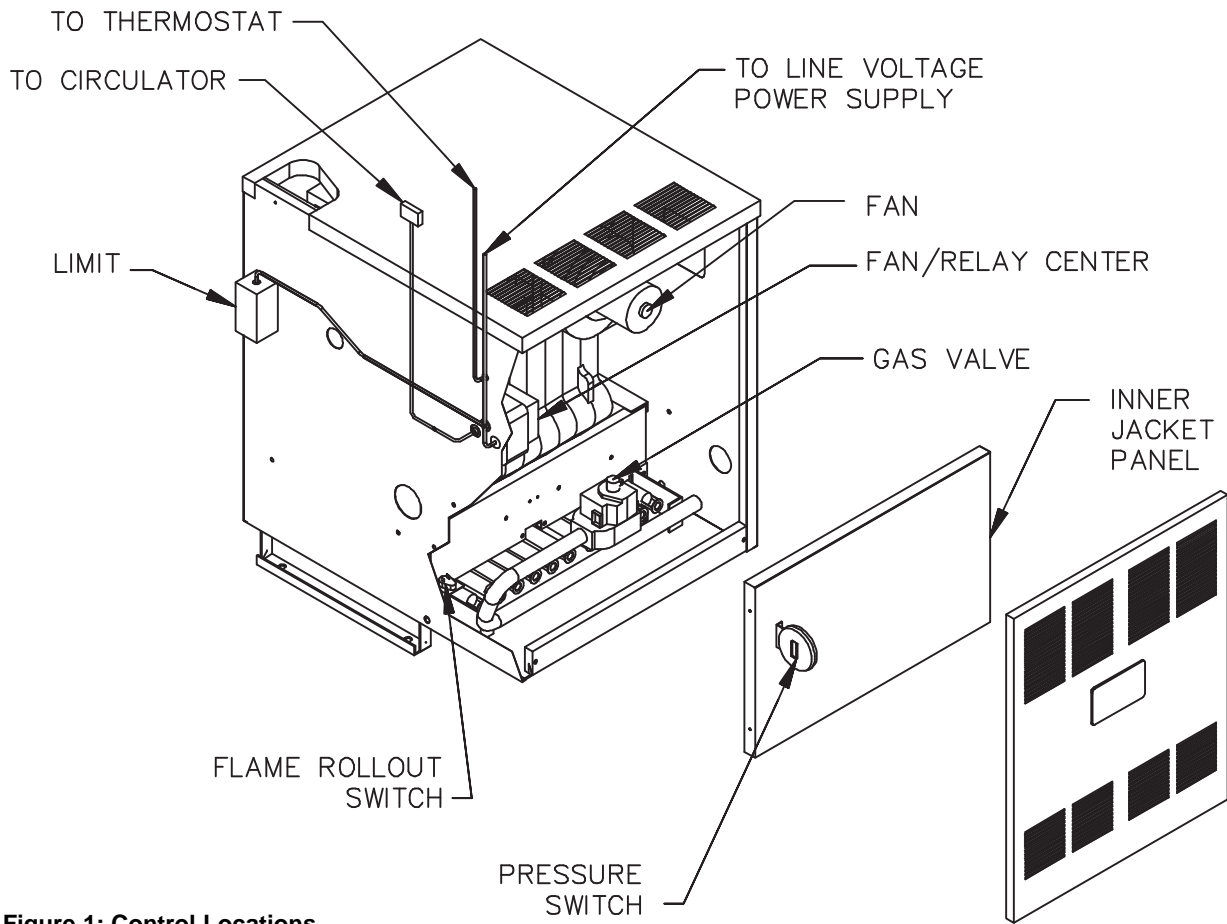

Figure 1: Control Locations
1. **Limit.** See Figure 1. A device which automatically interrupts boiler operation when the water temperature exceeds the set point. Maximum allowable temperature is 220°F (104°C).
2. **Flame Rollout Switch.** See Figure 1. A device which automatically interrupts boiler operation when flames or excessive heat are present in the combustion area. The control is a single use device. If the control is activated to interrupt boiler operation, do not attempt to place boiler in operation. Contact a qualified service agency.
3. **Pressure Switch.** See Figure 1. A device which automatically interrupts boiler operation when there is excessive blockage in the vent system or fan motor does not operate. This control is an automatic reset device. If control is activated to interrupt boiler operation, do not attempt to place boiler in operation. Contact a qualified service agency.
5. **Gas Valve.** The gas valve monitors pilot flame and regulates gas flow to the burners and pilot. See Figure 1.